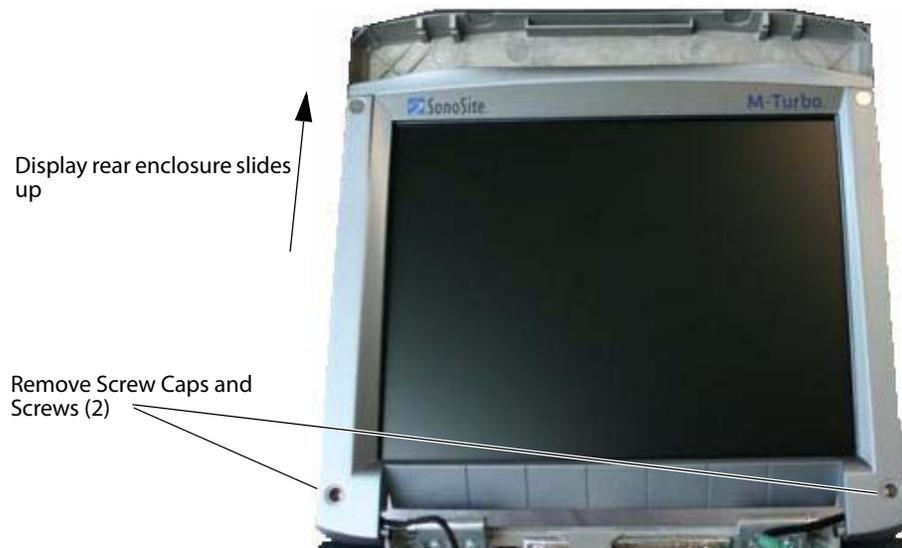

Figure 4.5 Remove Display Back Enclosure
- 6 The replacement Display Assembly does not include the Display Rear Enclosure. Remove the Display Rear Enclosure by removing the two screw caps, two screws, and then sliding the rear enclosure up and away from the display as show in Figure 4.5.